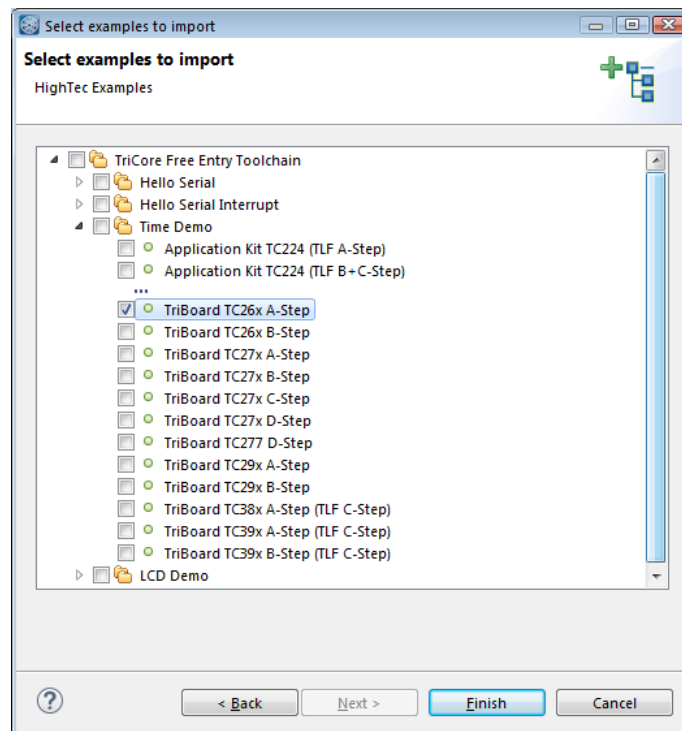

Figure 12 Examples – Hardware Selection
- The next wizard page (Figure 12) shows a selection tree containing the TriCore boards supported by the toolchain. Expand the sample node e.g. **TimeDemo** and select **TriBoard TC26x A-Step**. Press Next.